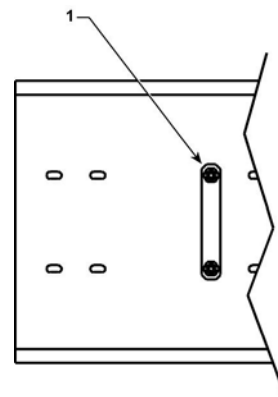

Figure 2. molstic-S Nut Plate
- ❼ Place the flat side of the 60 mm nut plate (Fig 2, 1) under the molstic-S platform. Align it with the holes in the platform and the regulator bracket. Hold it in place.
- ❸ Thread the two M4 socket head cap screws and M4 flat washers through the regulator bracket and tighten them securely into the nut plate.
- ❹ Place a new VCR® gasket (P/N 101183) inside the gauge port of the regulator. This port is marked "IN" on the regulator body and is perpendicular to the axis of flow of the regulator. Install the included gauge and hold in place while tightening 1/8 turn past finger-tight.